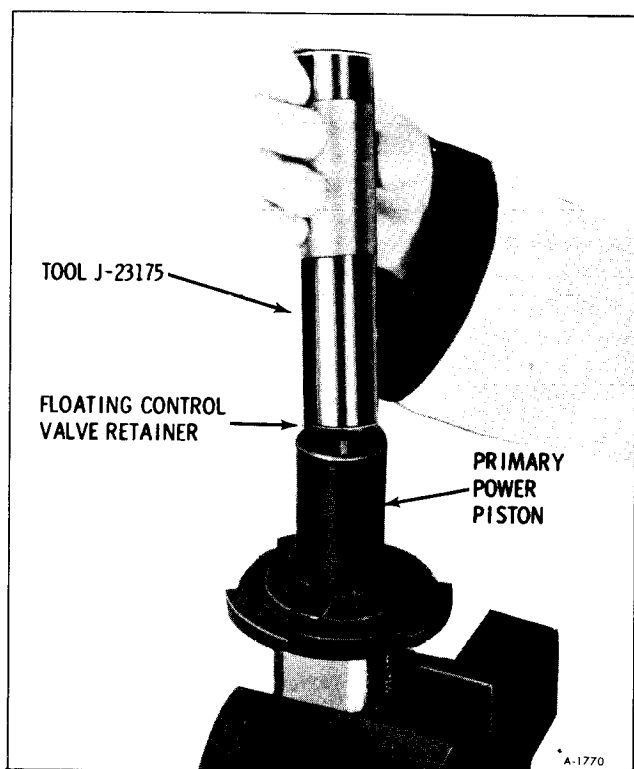
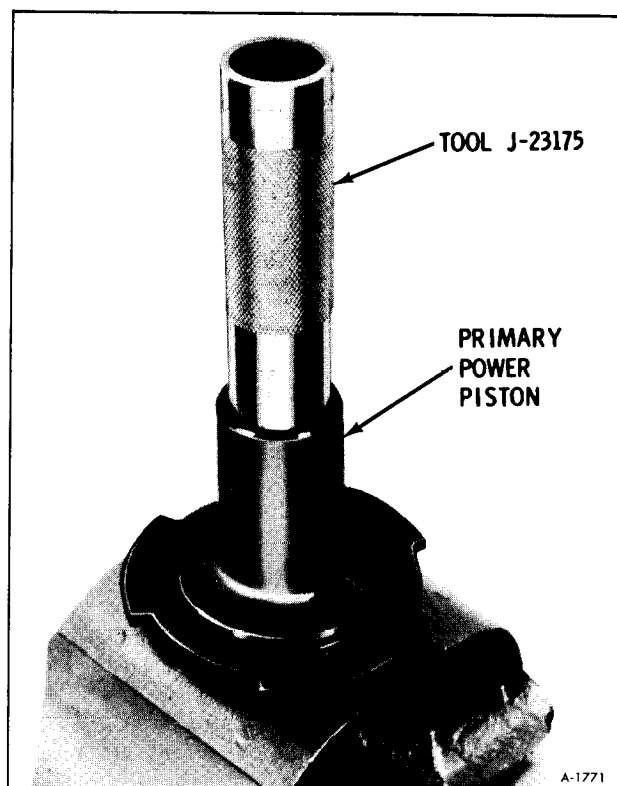

Figure 46—Installing Retainer Ring
Figure 47—Retainer Ring Seated
5. Place lip of retainer on the O.D. of Tool J-23175. (figure 46) Manually press the retainer until seated in the primary power piston tube. (figure 47)